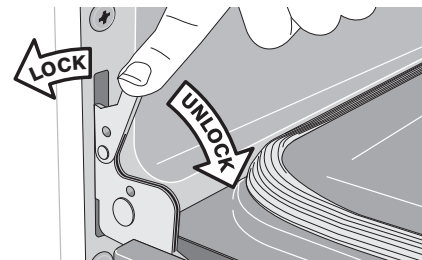

Figure 9: Hinge locks
2. Pull down the door hinge locks located on each hinge support toward front of the oven until the lock stops. (Figure 9).